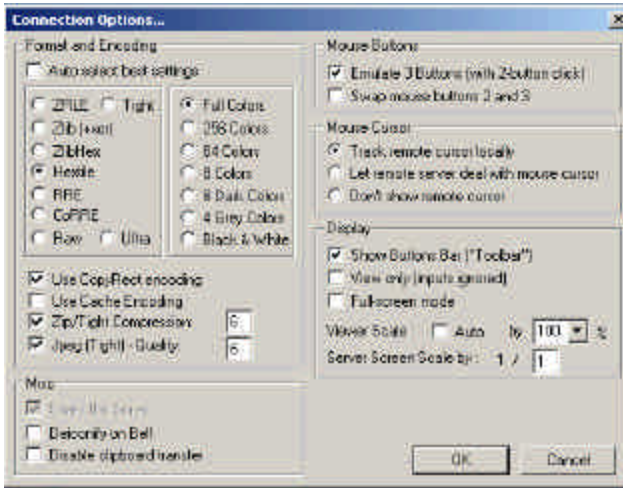

Fig. 3: Connection Options
If you want to change connection options, click the *Options* button. Another pop-up window will appear (Figure 3). *Auto select best settings* is the default. From this window you can change *Mouse Cursor* options and select *Display* options.
- **Show Connection Options** will display the same pop-up window that is available from the **Options** button of the initial **Connection** window (Figure 3).